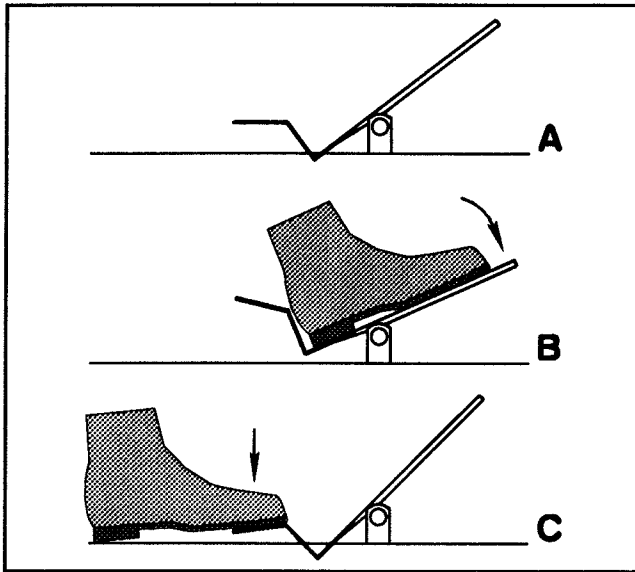

Figure 19
2. With the operator's foot positioned on the foot pedal as shown in (Fig. 19 page 23), slowly apply pressure with the toe on top of the pedal away from the operator to move in a FORWARD direction. Position toe on the "tail" of the pedal to move in a REVERSE direction.